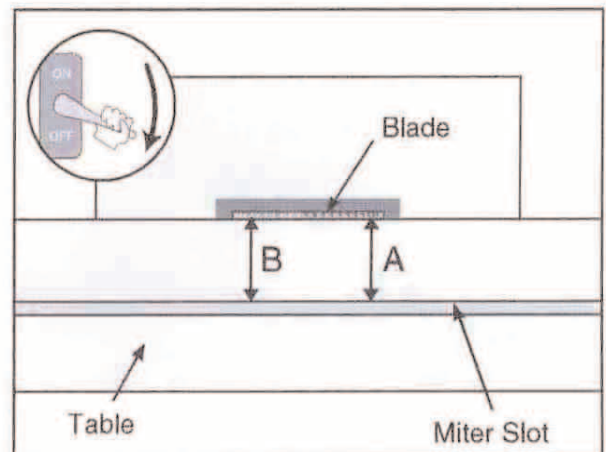

Figure 85. Measuring gap between the table and the blade.
4. Using an adjustable square or a dial indicator, measure the distance (A) between the miter slot and the front of the blade as shown in Figure 85.
5. Rotate the blade 180° and slide the table with the measuring device to position (B) in Figure 85.